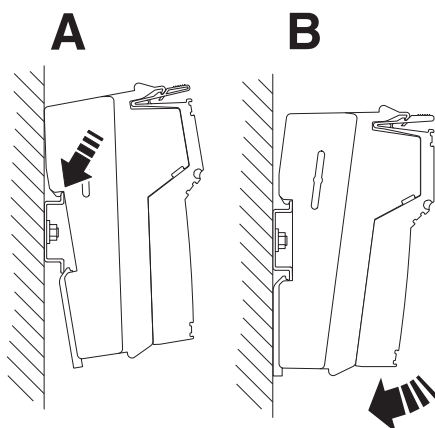
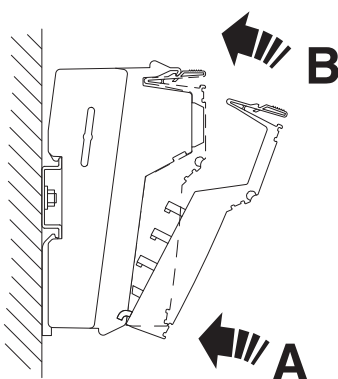

Figure 2-12 Snapping on the Inline controller (1)
Figure 2-13 Snapping on the Inline controller (2)
Mount the Inline controller horizontally (as shown in Figure 2-12 on page 29). The temperature range specified in Section "Ambient conditions" on page 93 is only guaranteed if the Inline controller is mounted in this position.
When mounting the Inline controller, proceed as shown in Figure 2-12 and Figure 2-13:
- Place the Inline controller onto the DIN rail from above (Figure 2-12, A) and push down (Figure 2-12, B).
First, place the front connector shaft latching in the front snap-on mechanism (Figure 2-13, A).
Then press the top of the connector towards the base until it snaps into the back snap-on mechanism (Figure 2-13, B).